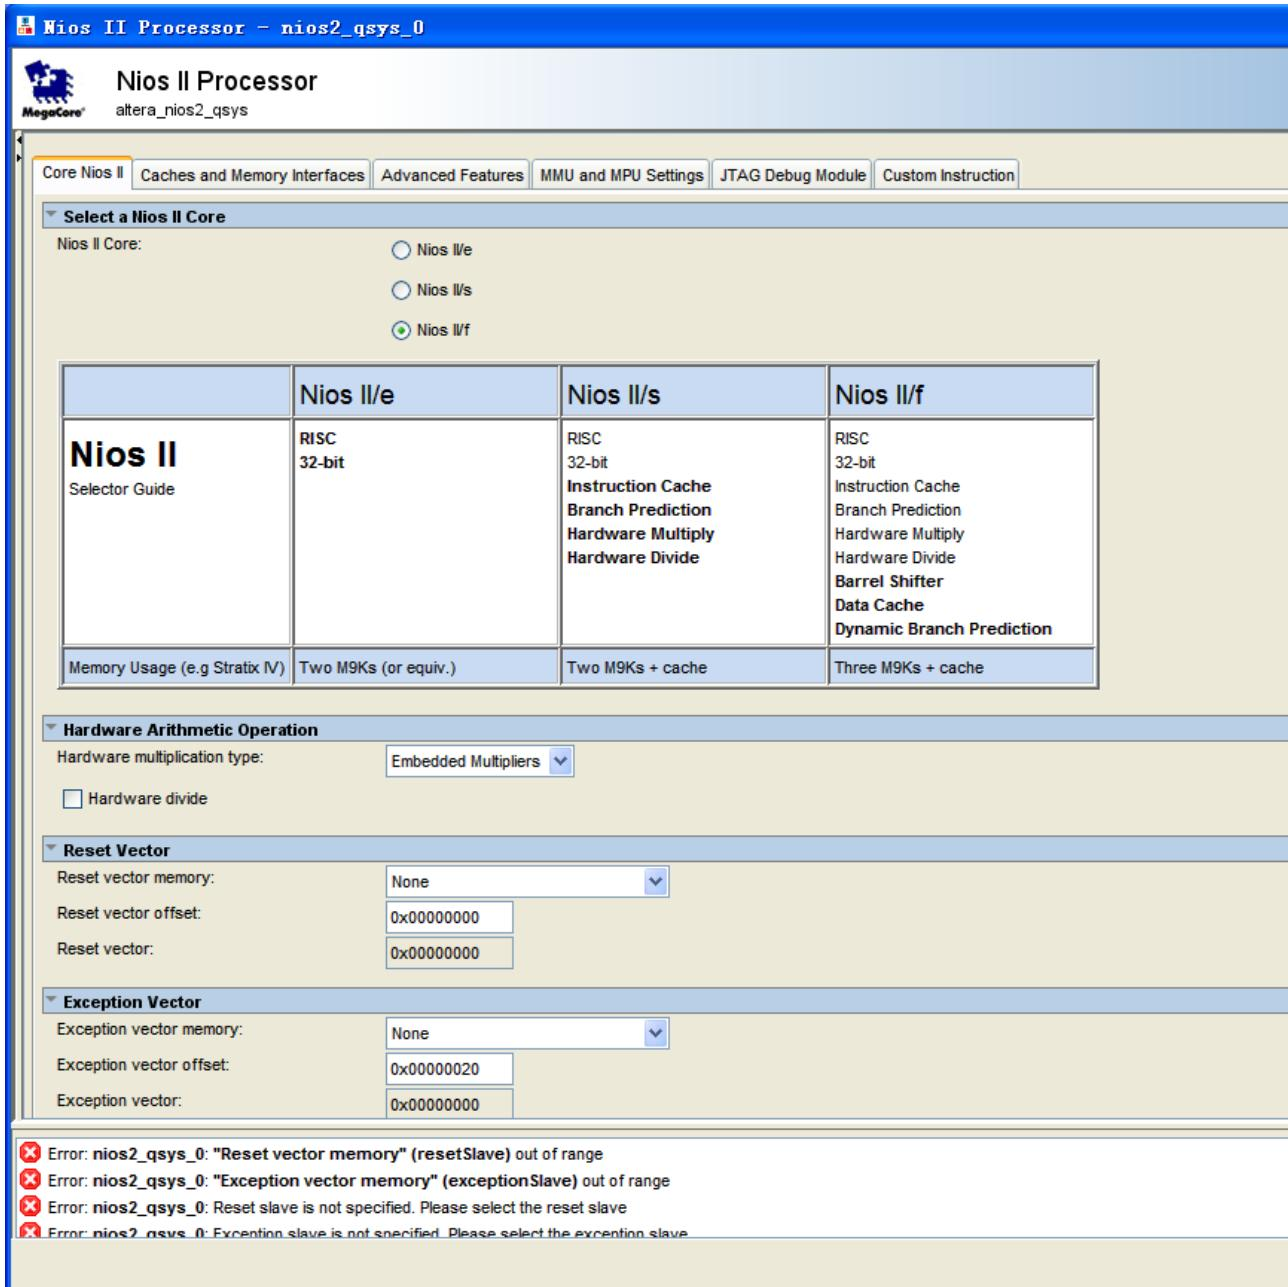

**Figure 1-14 Rename Clock Name**
8. Click the Name of the Clock Settings table, rename **clk\_0** to **clk\_50**. Press Enter to complete the update. See Figure 1-14.